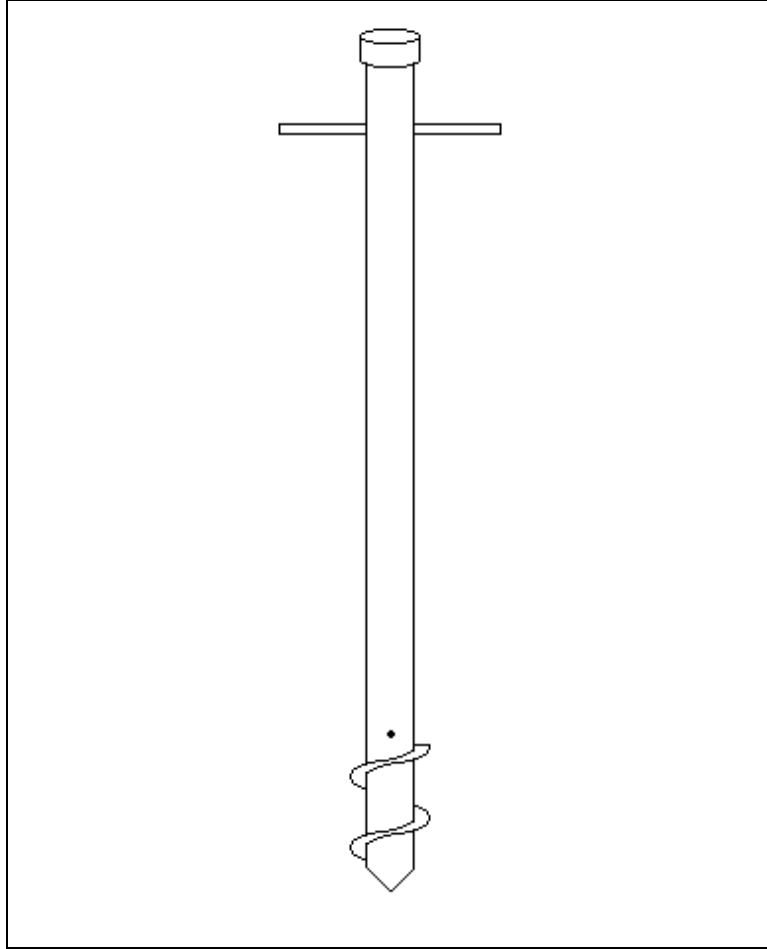

Figure 1
- Glass bead sampler (Figure 1)